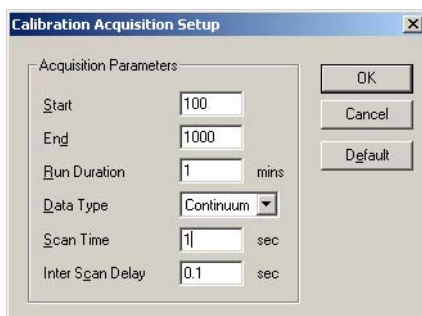

Figure 3-10 Calibration Acquisition Setup Dialog Box
11. Click Acquisition Parameters to open the Calibration Acquisition Setup dialog box (Figure 3-10)
12. Set the Acquisition Parameters as shown in Figure 3-10.